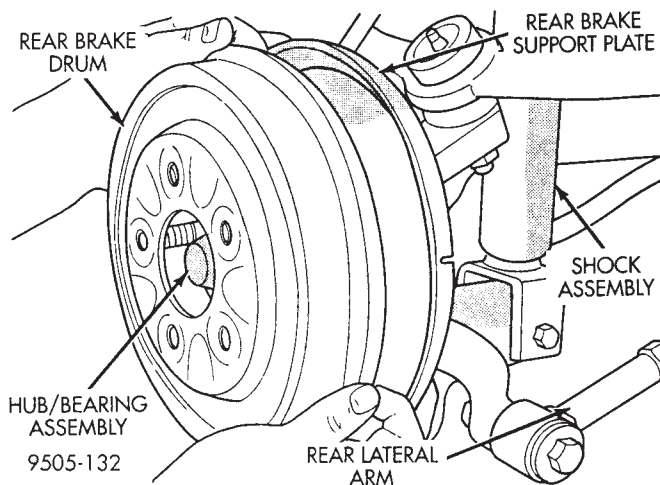
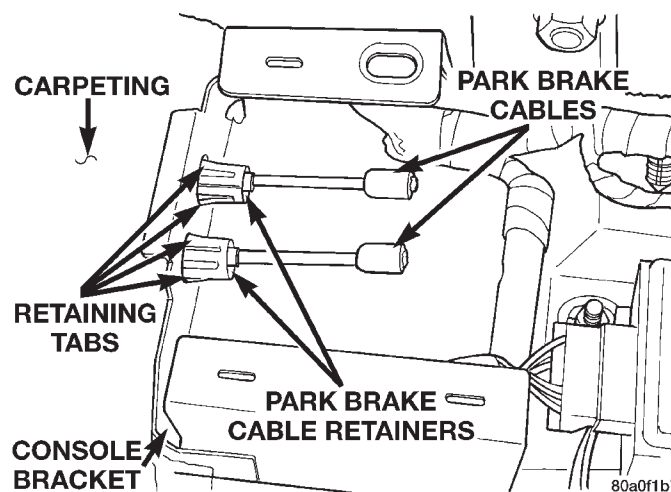

**Fig. 140 Rear Brake Drum**
**Fig. 147 Park Brake Cables Installed In Console Bracket**
(19) Raise vehicle on jackstands or centered on a frame contact type hoist. See Hoisting in the Lubrication and Maintenance section of this manual for the required lifting procedure to be used for this vehicle.
(20) Remove rear wheel and tire assembly from the side of the vehicle requiring park brake cable service.
(21) Remove the rear brake drum (Fig. 140) from the rear hub/bearing assembly.
(8) Install the rear brake drum on the hub/bearing assembly (Fig. 140).
(9) Install rear wheel and tire assembly on vehicle. Tighten all wheel stud nuts in criss cross pattern to one-half specified torque. Then repeat pattern, fully tightening stud nuts to 135 N·m (100 ft. lbs.).
(10) Lower vehicle.
(11) Grasp park brake cable to floor pan seal grommet by hand and pull it into the floor pan to ensure seal grommet is fully seated into the floor pan.
(12) Route park brake cable under carpeting and up to park brake cable hole in console bracket on floor pan. Then install park brake cable into console bracket (Fig. 147). Be sure tabs (Fig. 147) on park brake cable retainer, have expanded out to hold park brake cable in console bracket.